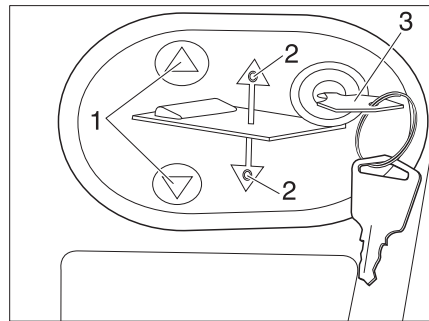

Fig. 170 Operating panel for the electrical pull-down bed
- Insert the key (Fig. 170, 3) into the operating panel (Fig. 170, 2).
- Press the ▼ or ▲ (Fig. 170, 1) button and keep it pressed. The respective LED (Fig. 170, 2) lights up and the pull-down bed moves down or up.
- When the desired position has been reached, release the ▼ or ▲ (Fig. 170, 1) button again. The respective LED (Fig. 170, 2) extinguishes.
- Remove the key (Fig. 170, 3).